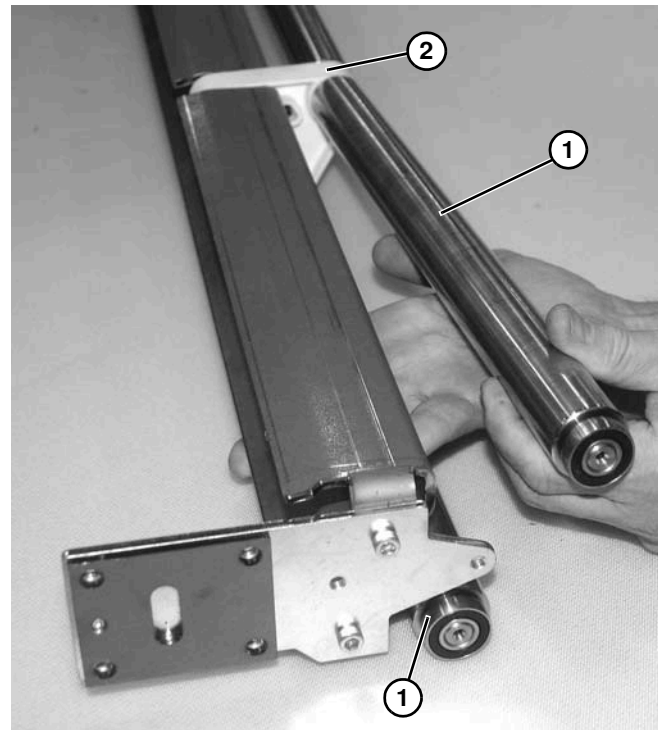

Figure 135
9. Remove upper and lower spindles (Figure 135, item 1) from nose bar puck (Figure 135, item 2).